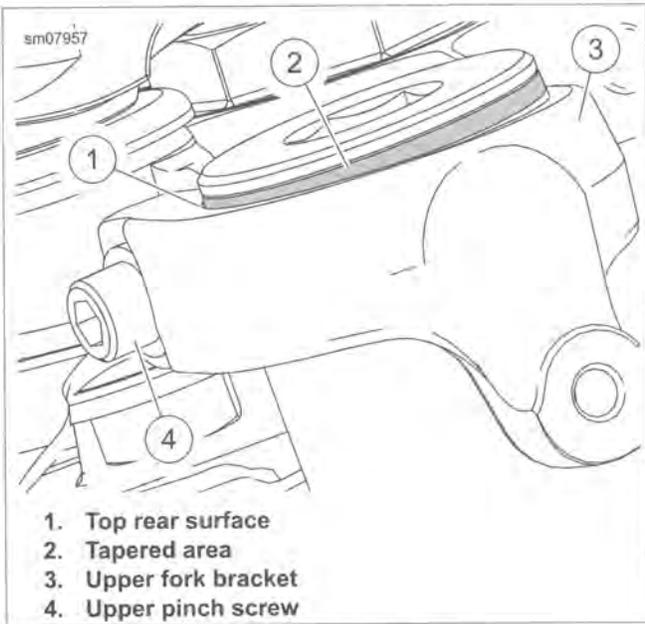

Figure 2-67. Fork Height
- Visual method: See Figure 2-67. Set fork height so top rear surface (1) of upper fork bracket is midway of the tapered area (2) at top of fork.